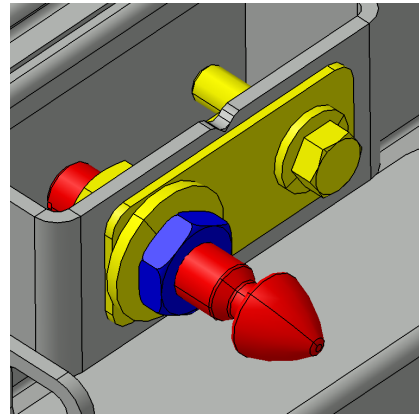

FIGURE 67
- Use the pin to adjust the door so it is even with the adjacent panel. Screw or unscrew the pin as required and then apply final tightening to the jam nut (FIGURE 67).